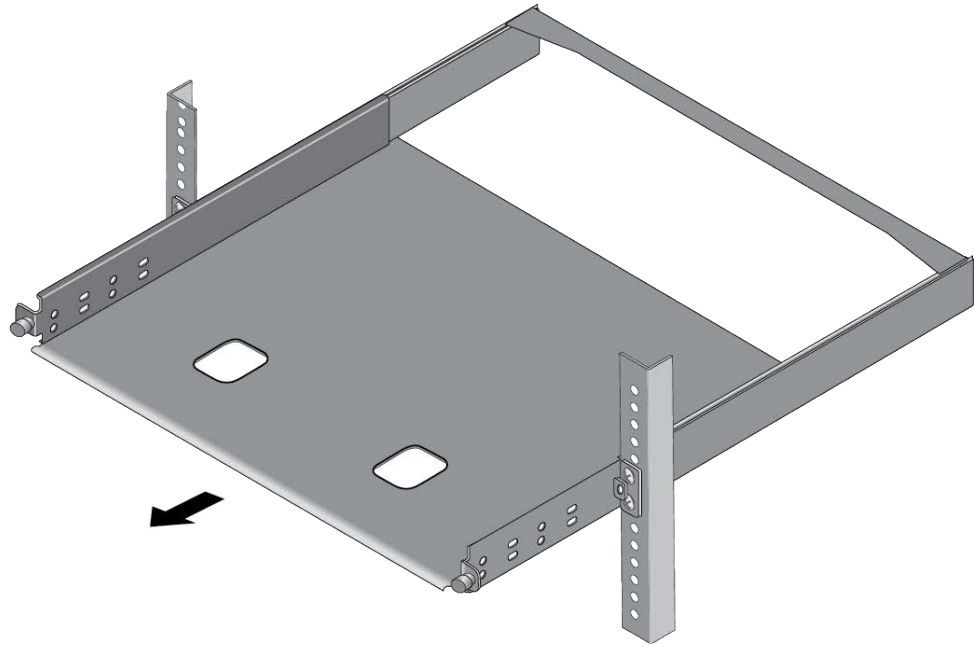

Figure 36. Sliding Out the Tray of the RKMT-J15
3. Slide out the bracket tray. Refer to Figure 36.